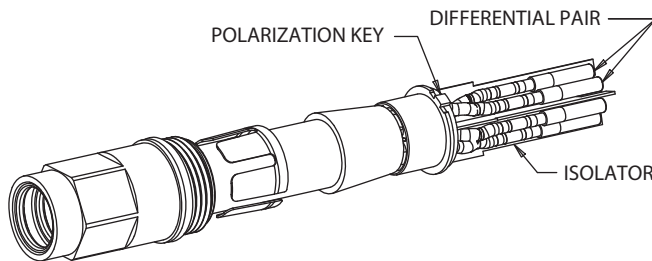

FIGURE 3
- B. Insert each pair of wires into the appropriate quadrant on the isolator according to figure 3 for socket modules, and figure 4 for pin modules.